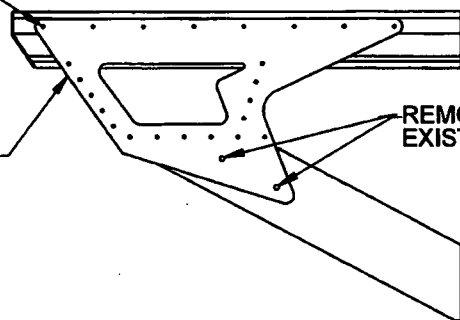

FIGURE 1
2.1.2 Remove qty (16) rivets fastening Step Leg Assembly D2582 to the D2351-041/-042 Step Assembly. See Figure 1. Drill a ϕ 0.25" hole in the bottom of the step 0.25" from the forward end. Hold the step vertically with the hole end down. Inject Sikaflex/Proseal into the hole to 'capture' any rivet stems inside the step and cover the drilled hole. Allow to cure before proceeding.
2.2.2 Remove qty (16) rivets fastening Step Leg Assembly D3065-041 and Spacer D3066-1 (2 PL) to D3078-041/-042 Step Assy or D3272-041/-042 Step Assy. Retain Spacer D3066-1 (2). See Figure 1. Drill a ϕ 0.25" hole in the bottom of the step 0.25" from the forward end. Hold the step vertically with the hole end down. Inject Sikaflex/Proseal into the hole to 'capture' any rivet stems inside the step and cover the drilled hole. Allow to cure before proceeding